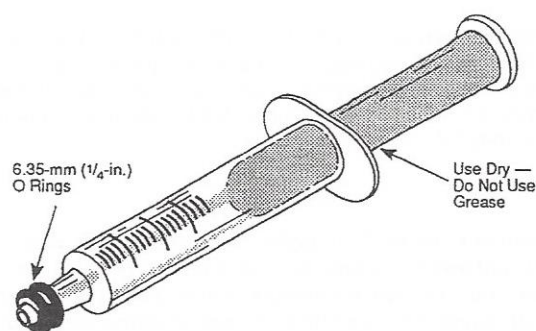

Figure 4-2. Syringe Used for Cell Flushing
This procedure must be done under laboratory conditions. Chemicals and solvents used must be chemically pure, reagent grade, and free from particulate matter. The syringe and o-ring used (figure 4-2) must be free from contaminants and foreign matter.
1. Use a glass hypodermic syringe with a non-metallic tip (figure 4-2) and flush the cell with distilled water. Do not use a needle on the syringe. Insert the small end of the syringe into the cell port with just enough force that the o-ring makes a good pressure seal.